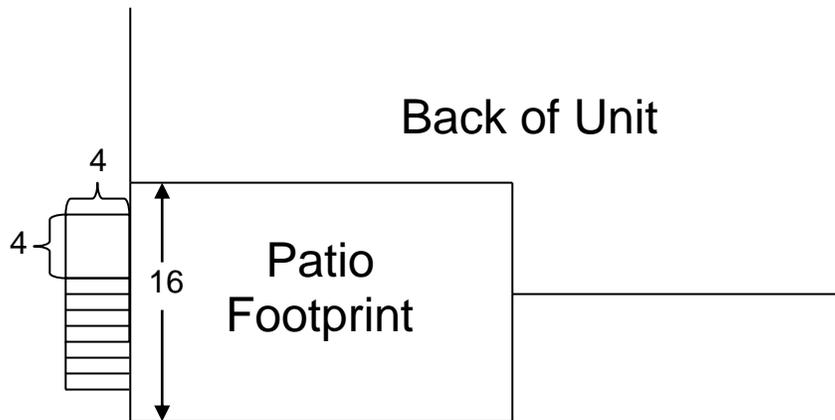

Figure 2
2. If the stairs/steps when built would exceed the 4 feet length, then a landing area may be built, not to exceed 4 feet by 4 feet, to allow the stairs/steps to extend along the side of the deck parallel to the deck depth. (Figure 2)